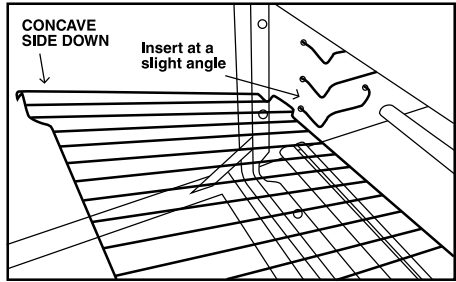

Fig. 1
1. Insert the wire rack at a slight angle (Fig. 1). The rack should be installed with the concave side down.